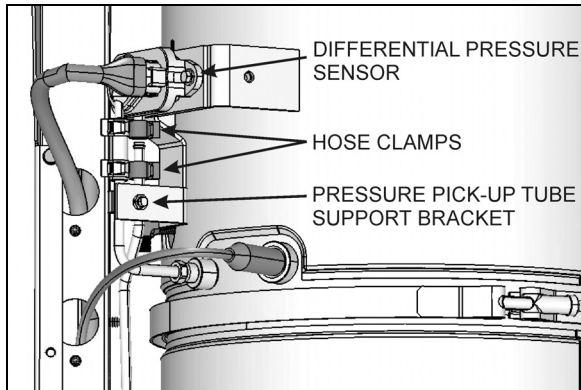

FIGURE 7: PRESSURE DIFFERENTIAL SENSOR AND TAKE UP TUBES (VOLVO D13 ONLY) 04026
| FIGURE 7: PRESSURE DIFFERENTIAL SENSOR AND TAKE UP TUBES (VOLVO D13 ONLY) .....  | 5 |
7. **With Volvo D13 engine;** Dismount the differential pressure sensor and detach the two hoses from the differential pressure sensor. Detach the two pressure pick-up tubes from the support bracket. This will help to clear the way off for removal of the DPF cartridge from the compartment (figure 7).